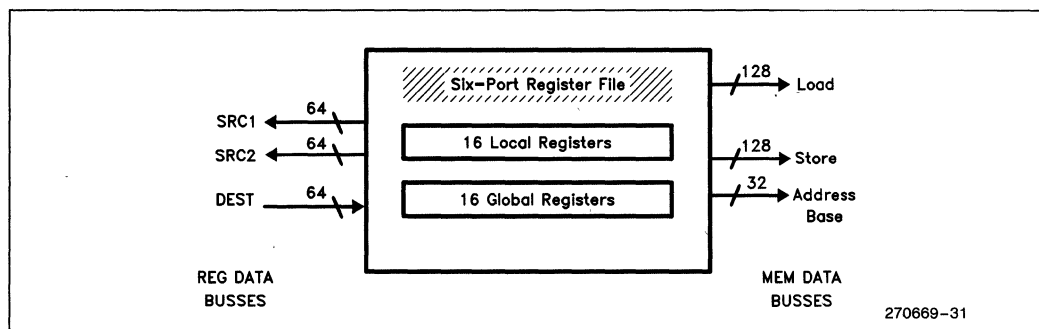

Figure A-3. Six-Port Register File
The *Register File (RF)* contains the 16 local and 16 global registers. The register file has six ports (Figure A-3), allowing parallel access of the register set by several 80960CA coprocessors. This parallel access results in an ability to execute one simple logic or arithmetic instruction, one memory operation (load/store), and one address calculation per clock.